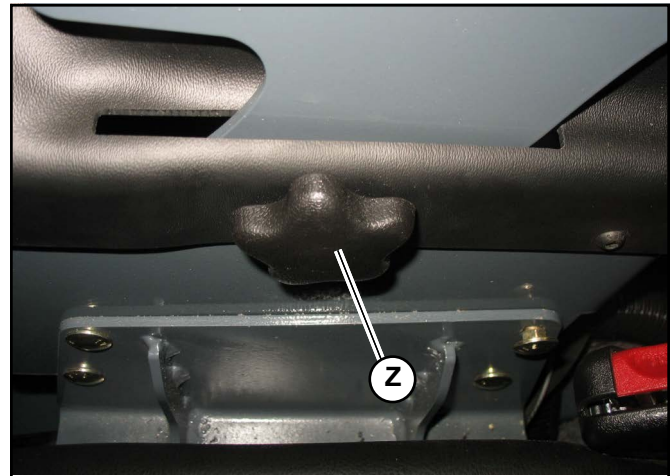

Fig. 72 – Armrest Adjustment
Adjust the armrest height using knob (Z, Fig. 72). Securely tighten knob (Z) after positioning armrest.